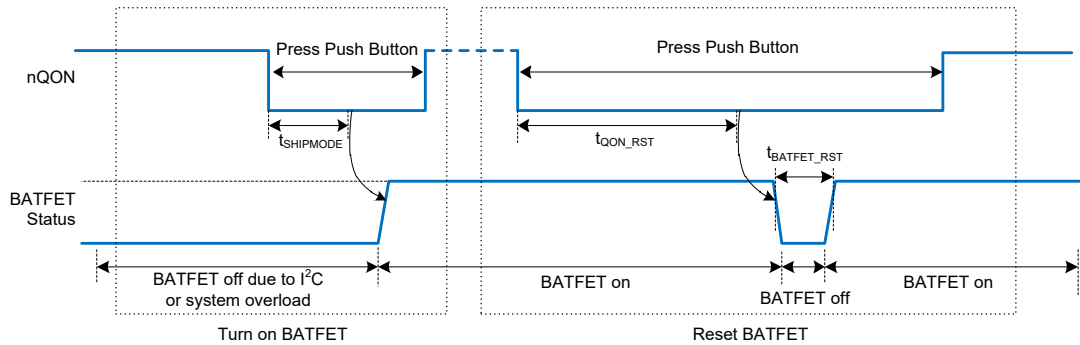

Figure 11. nQON Enable and Reset BATFET Timing
1. Enable BATFET: Applying an nQON logic high to low transition with longer than  $t_{SHIPMODE}$  deglitch time (negative pulse) turns on BATFET to exit ship mode (Figure 11 left). HIZ is also enabled (EN\_HIZ = 1) when exiting shipping mode. After exiting shipping mode, the host can disable HIZ (EN\_HIZ = 0). OTG cannot be enabled until HIZ is disabled (OTG\_CONFIG = 1).
2. Reset BATFET: By applying a logic low for a duration of at least  $t_{QON\_RST}$  to nQON pin while VBUS is not powered and BATFET is allowed to turn on (BATFET\_DIS bit = 0), the BATFET turns off for  $t_{BATFET\_RST}$  and then it is re-enabled resulting in a system power-on reset. This function can be disabled by clearing BATFET\_RST\_EN bit (Figure 11 right).